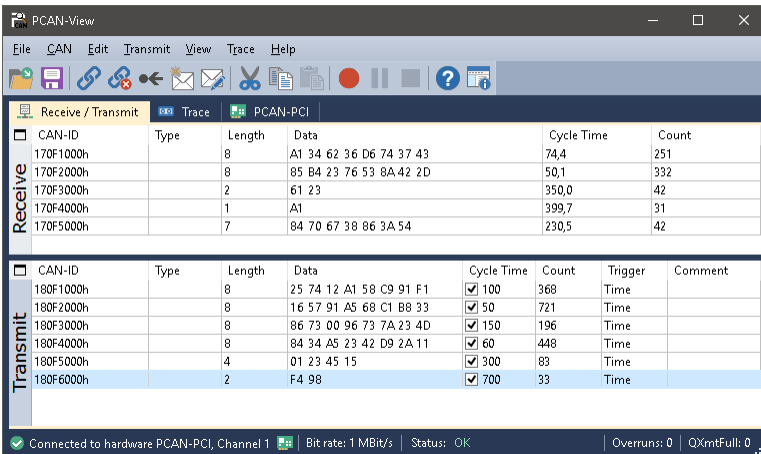

Figure 9: Receive/Transmit Tab
6. Confirm the settings in the dialog box with **OK**. The main window of PCAN-View appears (see Figure 9).